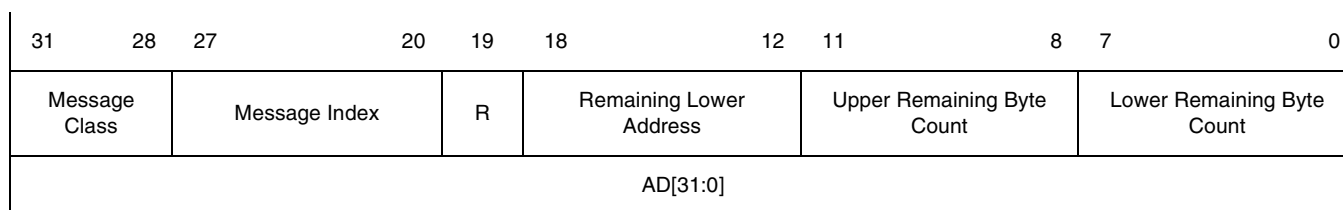

Figure 9-4. Split Completion Message Attribute Bit Assignments
- Split Completion Message Byte Count bit indicates the number of bytes that were not sent for this Sequence (if the Split Request was a Burst read). The remaining Lower Address bits indicate the lower seven bits of the starting address of the remainder of the Sequence. (Refer to Figure 9-4, Table 9-9 and Table 9-10 for further details.)